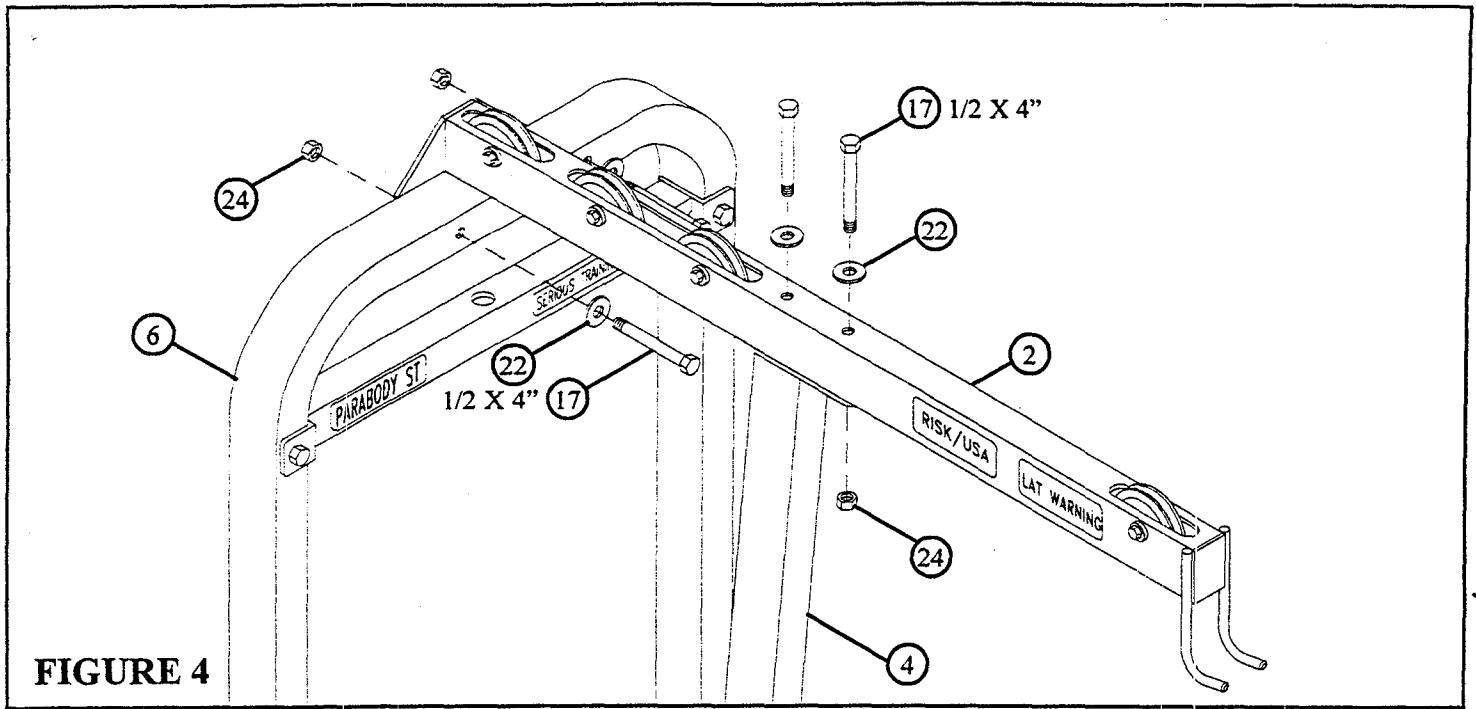

**FIGURE 3**
Securely attach four 3-1/2" PULLEYS (14) to the TOP BOOM (2) using four 3/8 X 2-3/4" BOLTS (19), eight 3/8" FLANGE SPACERS (26), and four 3/8" LOCK NUTS (25) as shown in FIGURE 3.